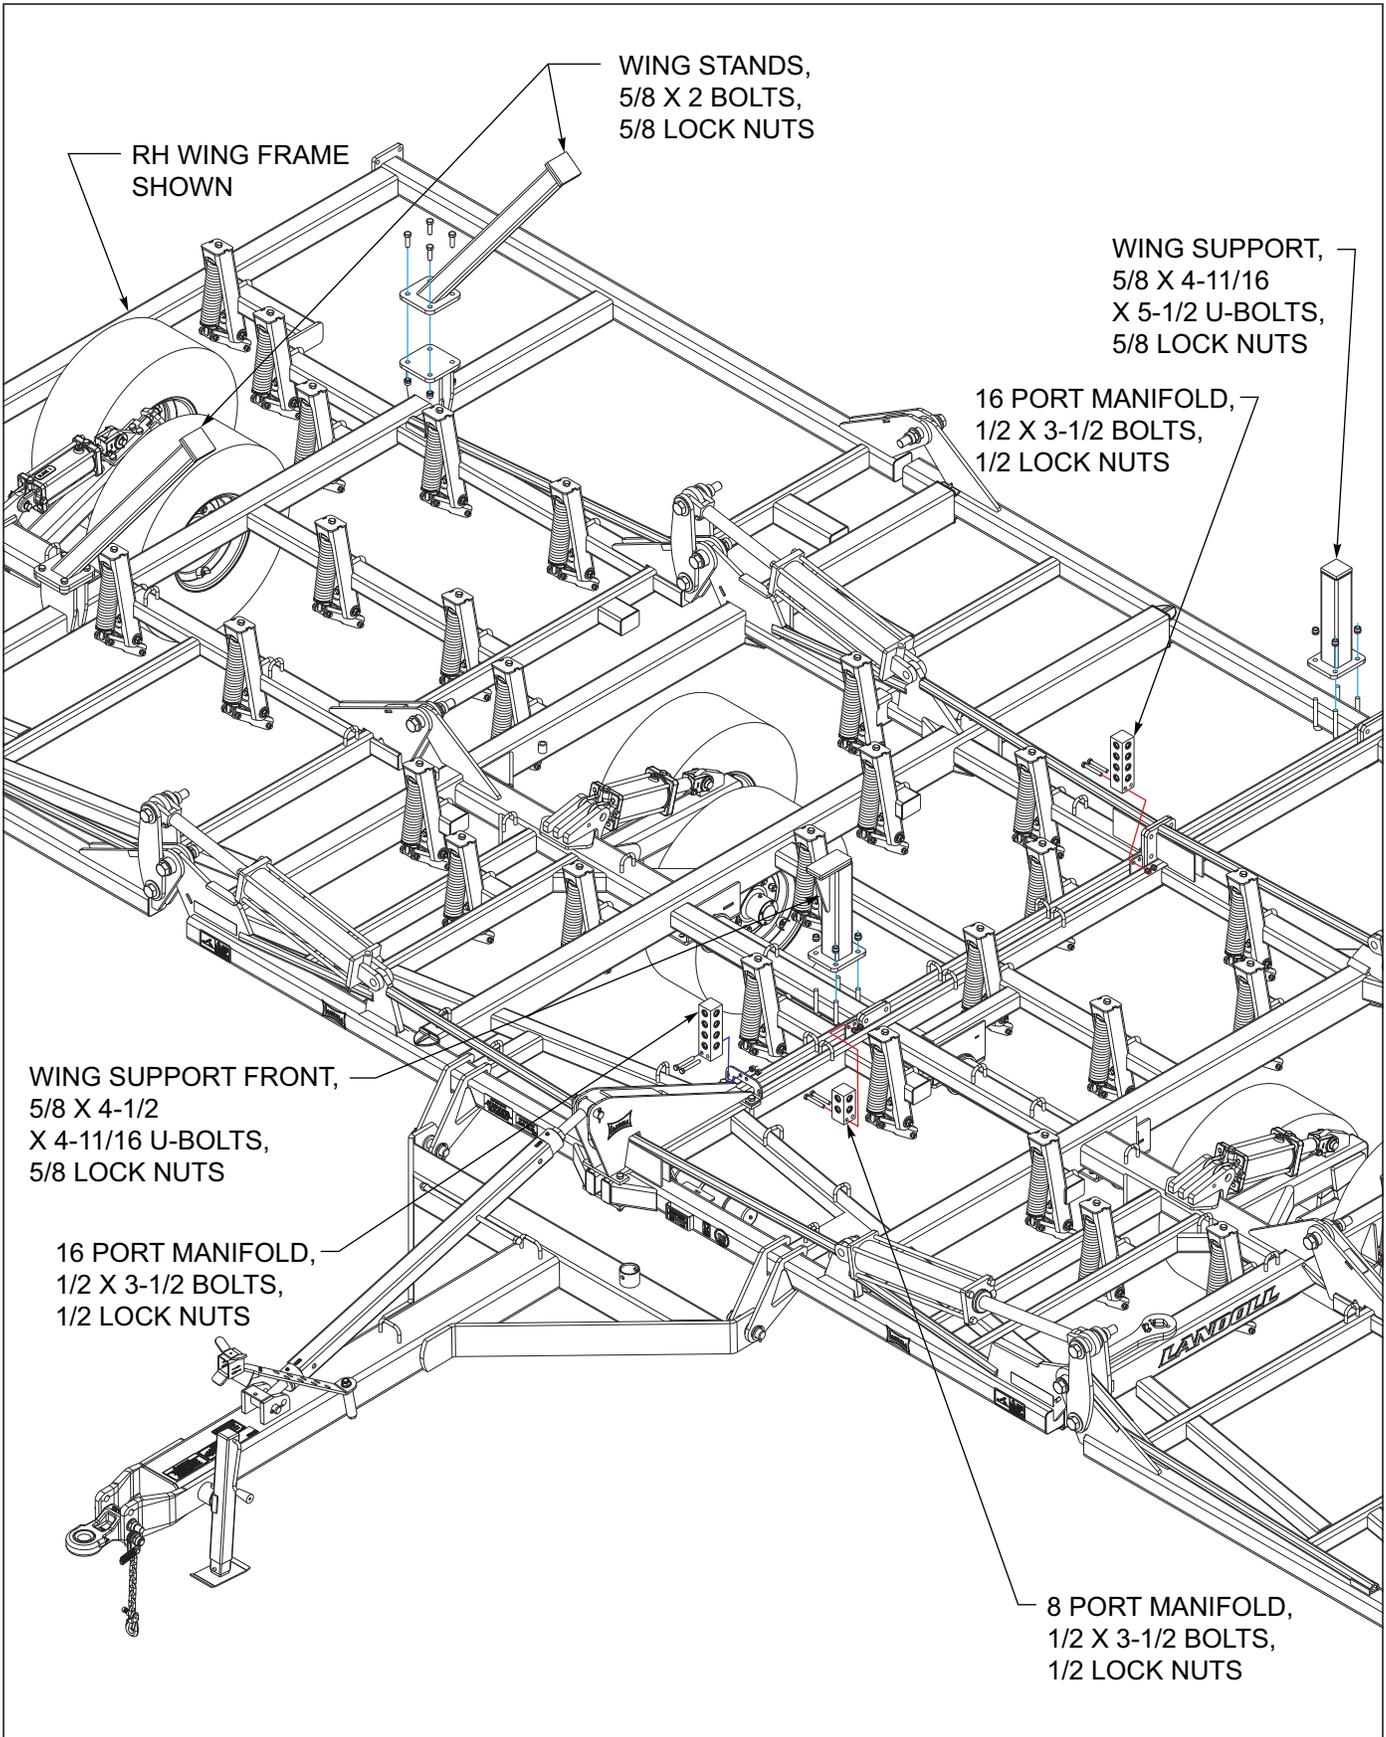

Figure 3-8: Wing Support Assembly 35'
2. **See Figures 3-8** for 35' models, assemble the wing supports to the RH center frame using 5/8 x 4-11/16 x 5-1/2 u-bolt, rear, 5/8 x 4-11/16 x 4-1/2 u-bolt, front and 5/8 lock nuts and to the RH wing frame using 5/8 x 2 bolts and lock nuts (**See “Wing Supports Placement 35' RH” on page 3-15.**).